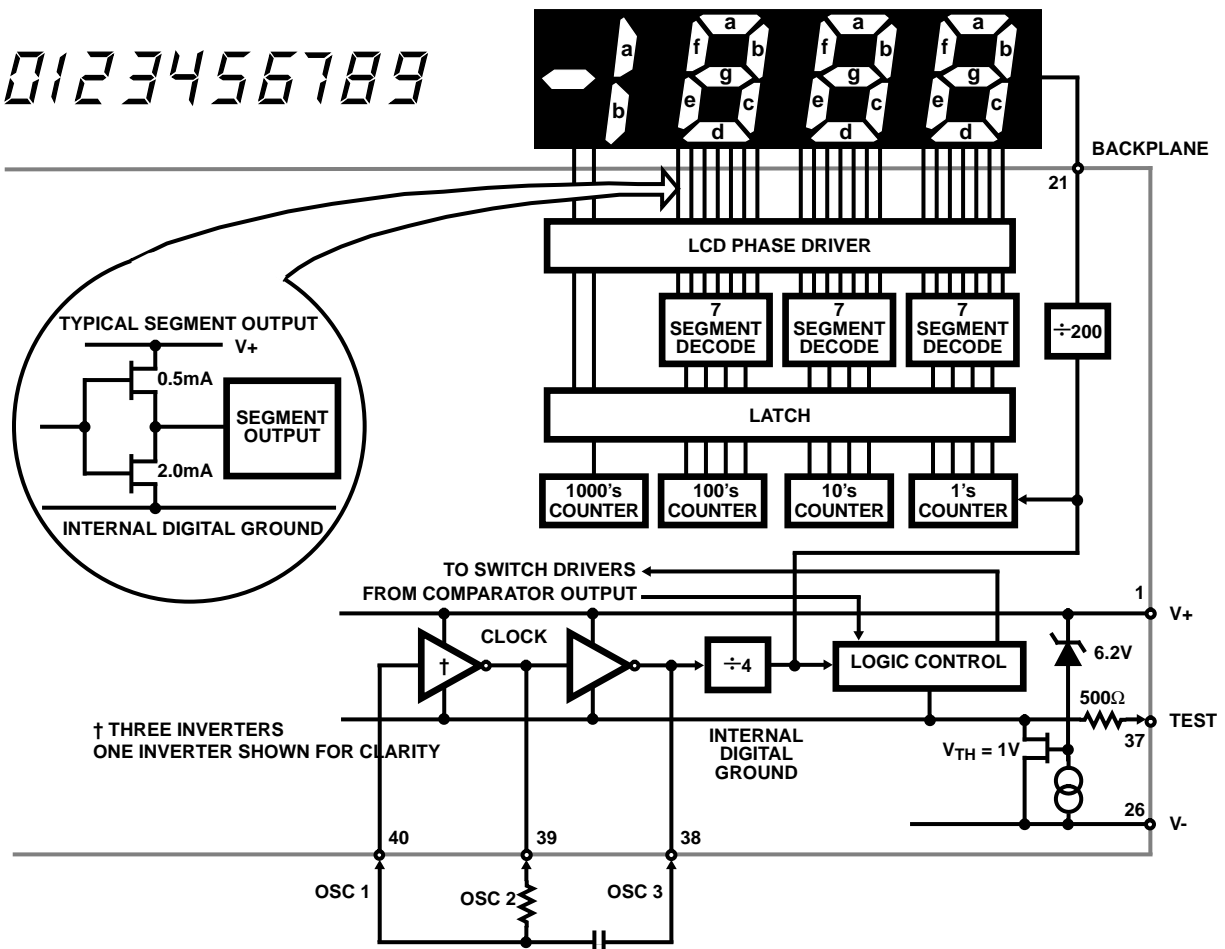

FIGURE 7. ICL7106 DIGITAL SECTION
Figures 7 and 8 show the digital section for the ICL7106 and ICL7107, respectively. In the ICL7106, an internal digital ground is generated from a 6V Zener diode and a large P-channel source follower. This supply is made stiff to absorb the relative large capacitive currents when the back plane (BP) voltage is switched. The BP frequency is the clock frequency divided by 800. For three readings/second this is a 60Hz square wave with a nominal amplitude of 5V. The segments are driven at the same frequency and amplitude and are in phase with BP when OFF, but out of phase when ON. In all cases negligible DC voltage exists across the segments.